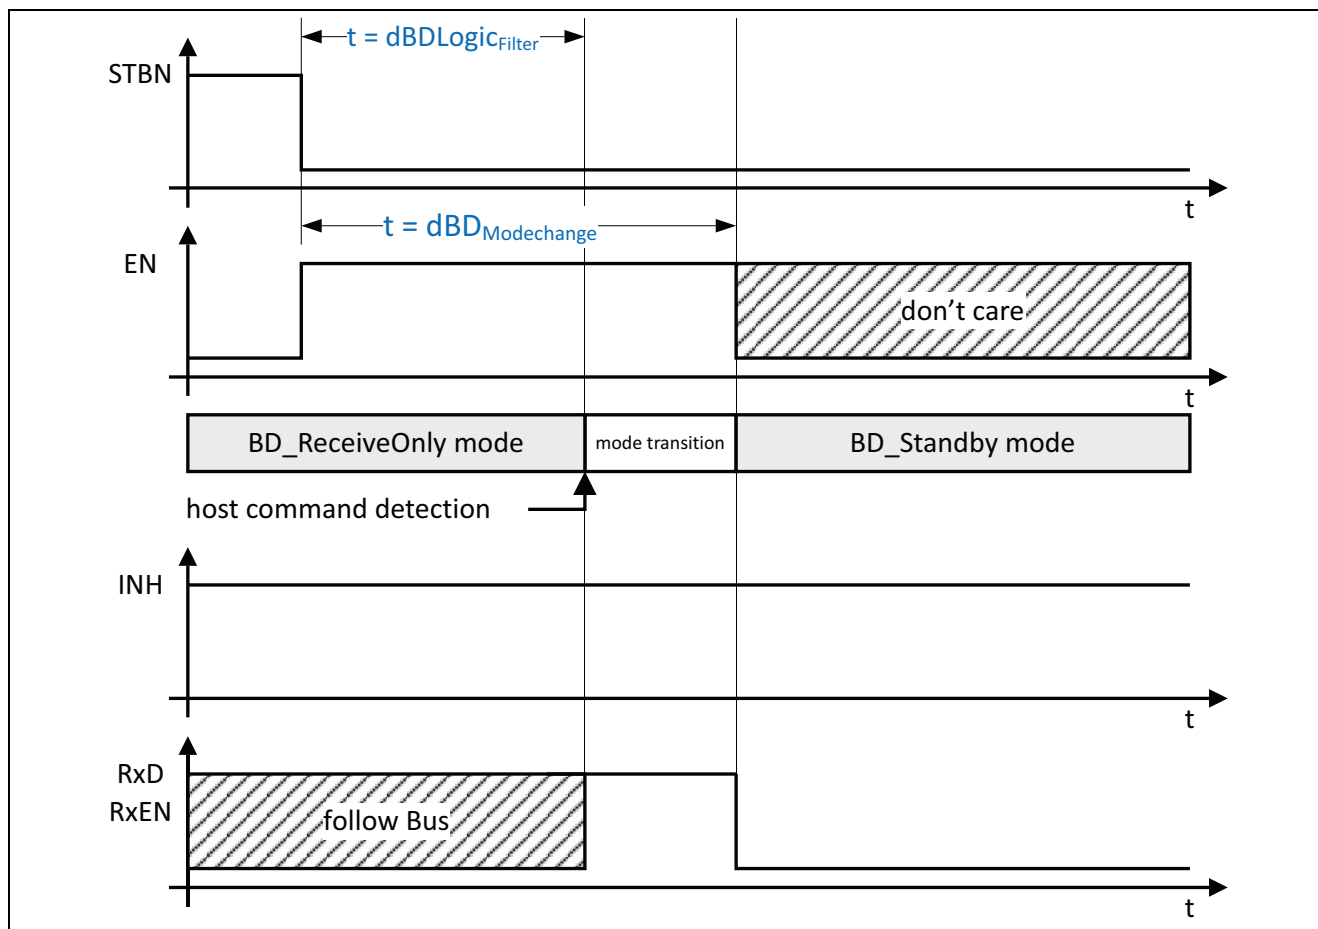

Figure 28 Changing over to BD\_Standby, with an active wake-up flag
- 10) The BD\_GoToSleep command cannot be executed while the wake-up flag is active (see Figure 28). The TLE9221SX changes over directly to BD\_StandBy mode.
Applying the BD\_GoToSleep host command to the TLE9221SX, while the wake-up flag is active, changes the operating mode directly to BD\_Standby mode. The RxD and RxEN outputs are set to “low” and indicate a previous wake-up event (see Figure 28 and Table 14).